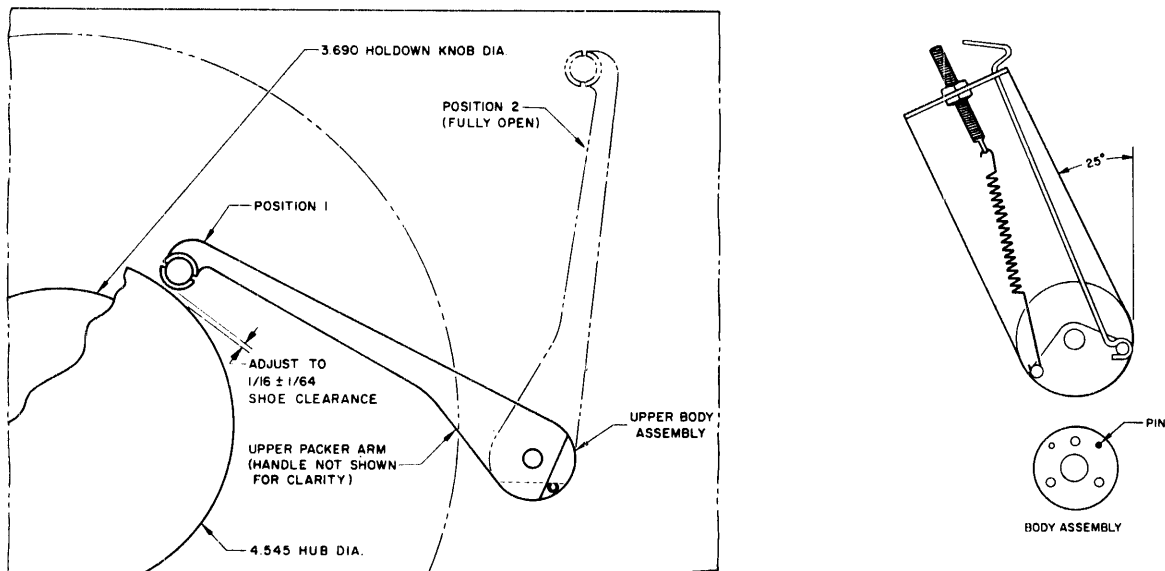

Figure 5-24.
- Step 2: Mount the clamp and bracket on the rear of the transport and the body assembly on the front of the transport, using the three screws and washers provided. Orient the bracket to the 25° reference angle shown in Figure 5-24.
- Step 4: Insert the connecting rod through the hole in the bracket flange and connect to the pivot on the crank (Figure 5-24).
- Step 5: Connect the short end of the extension spring to the spade bolt and the long end to the pivot on the crank as shown in Figure 5-24.
- Step 6: Place the packer arm on the shaft (Figure 5-24) with the set screw in line with the indentation in the shaft. Compress the packer arm and crank assembly to remove lateral play and tighten the set screw on the packer arm handle.